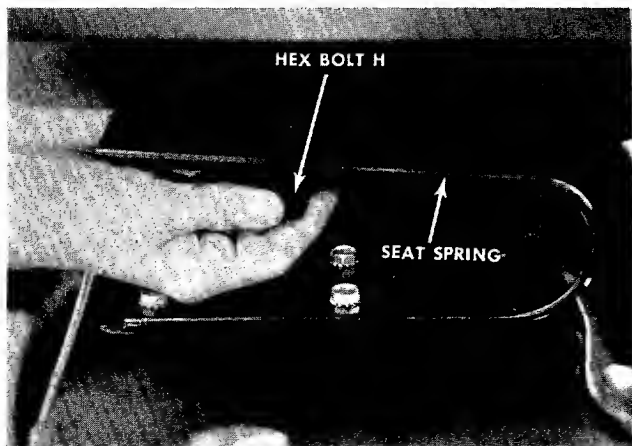

FIGURE 5. SEAT ASSEMBLY
b. Hex Head Bolt Mounted. Assemble the seat to the seat spring with hex bolt H as shown in figure 5.
CONTROLS See figure 5.